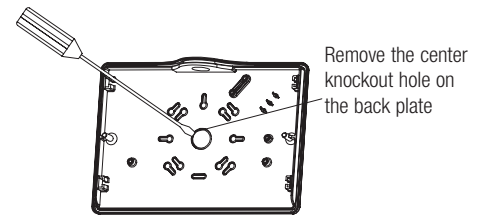

Fig. 2
Wall Mounting - Back Power Feed (Fig.2)
2. Knock out center and appropriate mounting screw holes on the back plate. (See Fig. 2)